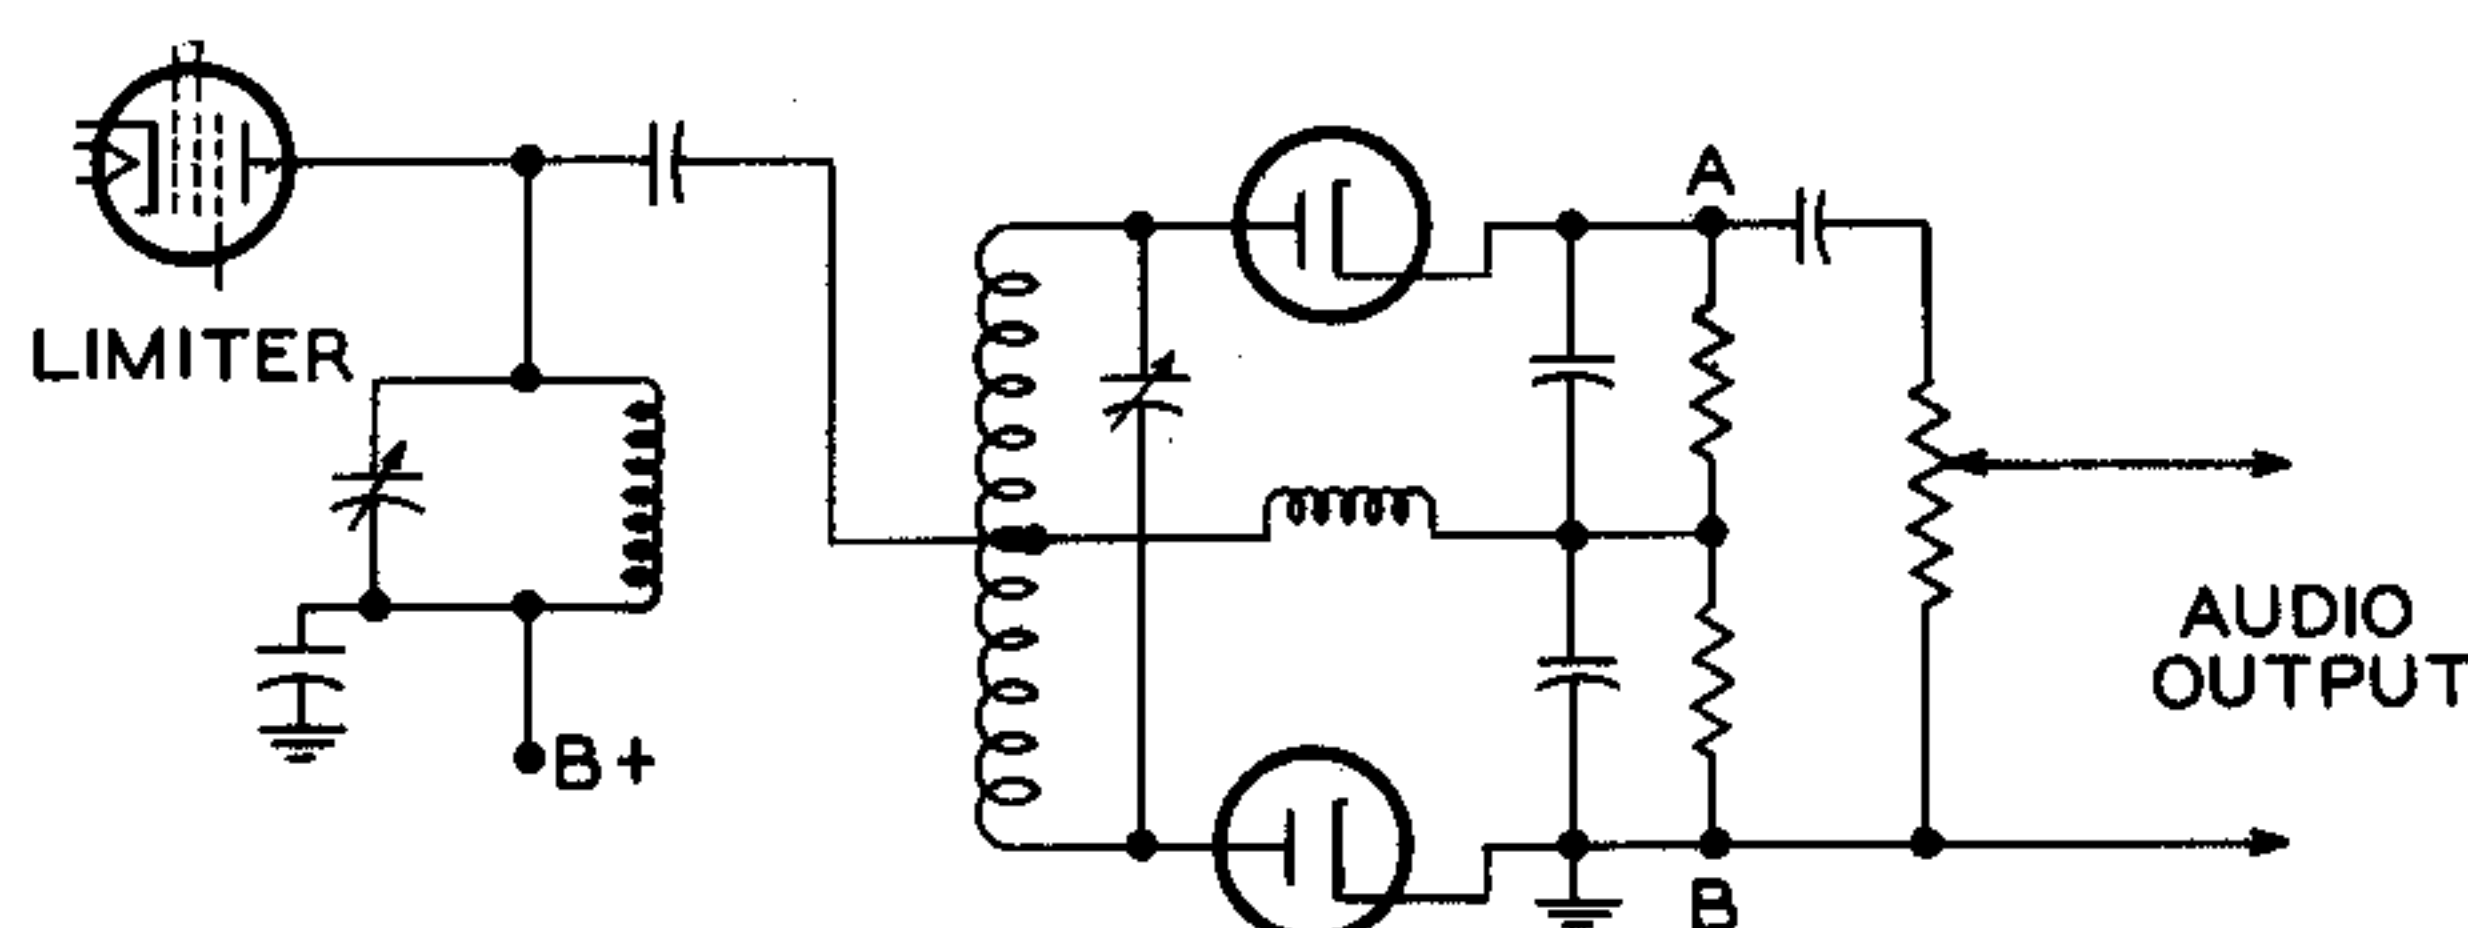

Figure 10. Discriminator
5. Connect the vertical-input terminals of the oscilloscope to the discriminator circuit at points A and B, Figure 10.